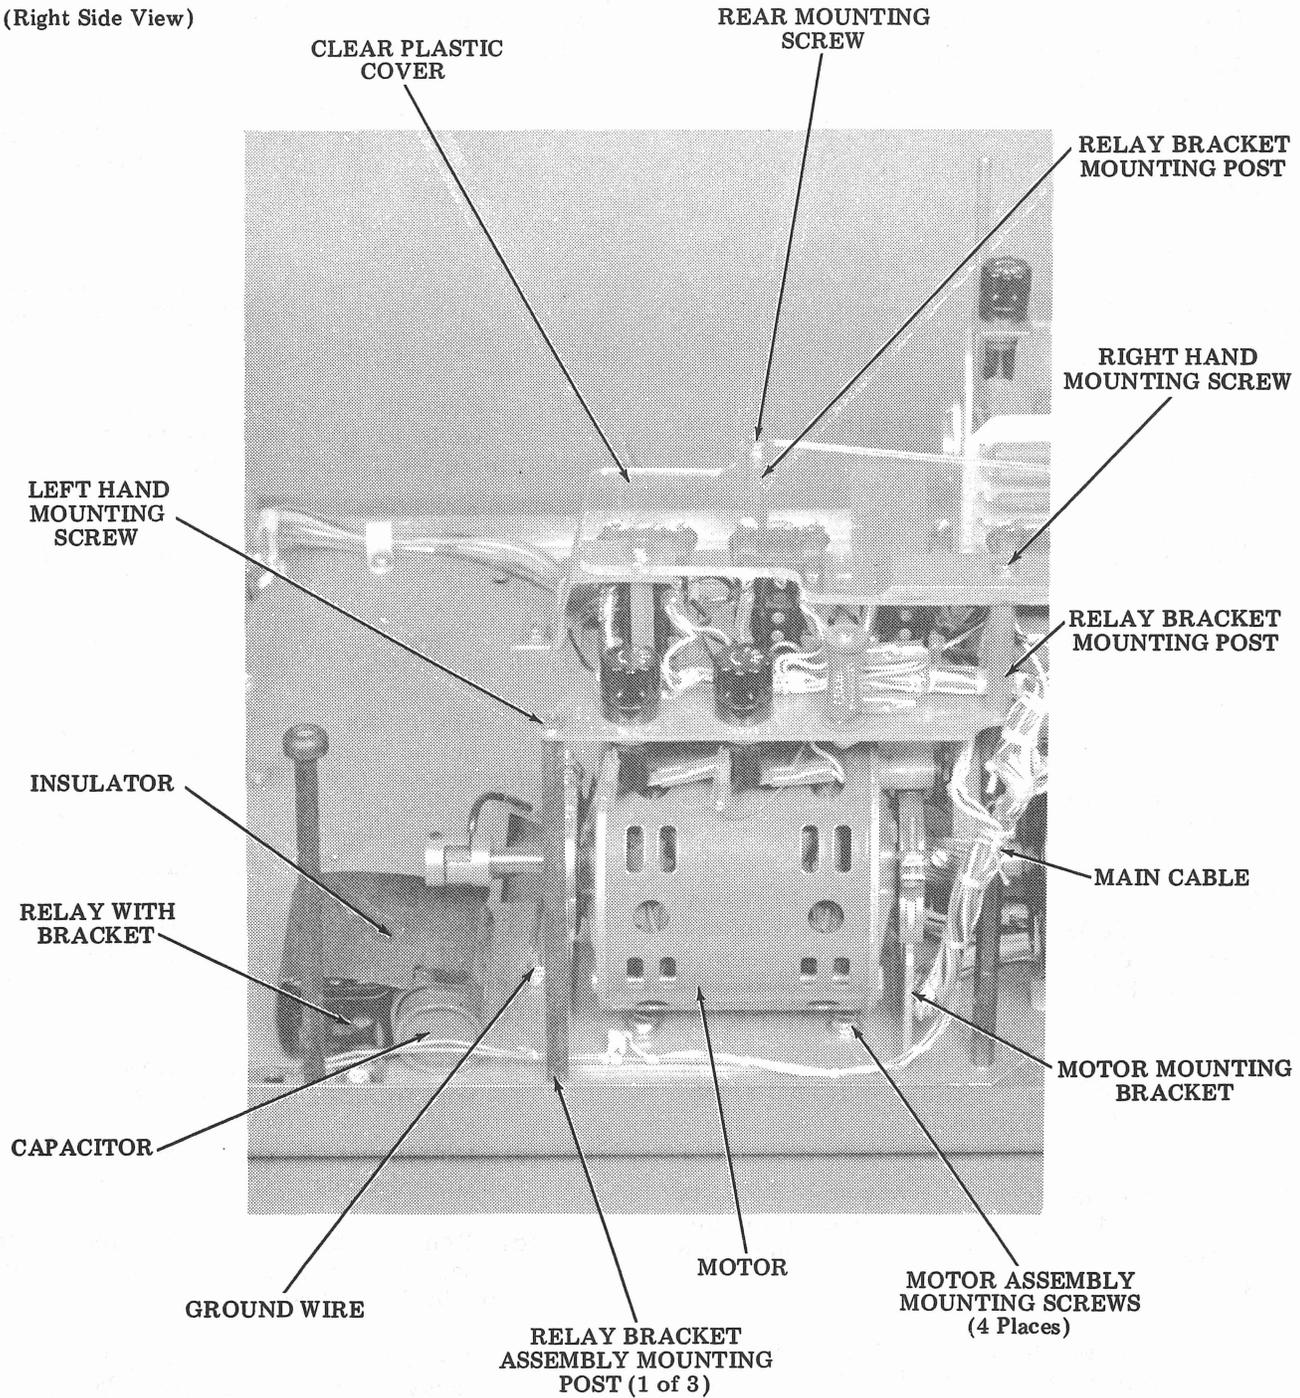

Figure 4 - Motor and Relay Bracket Assemblies
2.36 The motor assembly (TP181870) with fan and gears is secured to the motor mounting bracket (TP195802), which in turn is mounted to the subbase with four screws, lockwashers, and flat washers (Figure 4). To remove the motor assembly, proceed as follows: